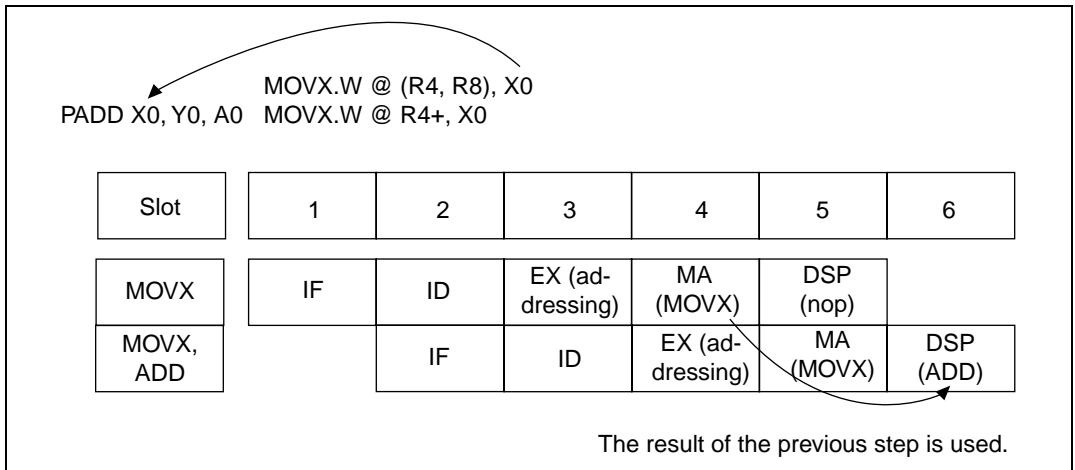

Figure 5.2 Sample Processing Flowchart
When the memory read destination operand is the same as the ALU operation source operand and the data transfer instruction program is written on the same line as the ALU operation, data loaded from memory in the memory access stage (MA) cannot be used as the source operand of the ALU operation instruction. When this occurs, the result of the instruction executed first is used as the source operand of the ALU operation and is updated as the destination operand of the data load instruction thereafter. Figure 5.2 is a flowchart of the operation.